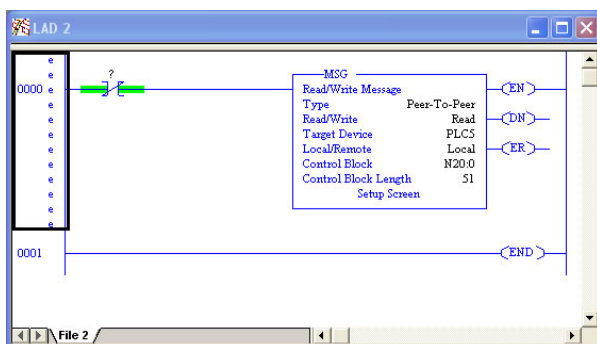

Figure 115: PLC Program after MSG Instruction Configuration
- Close the dialog box. At this point, the program should appear as shown in Figure 115.